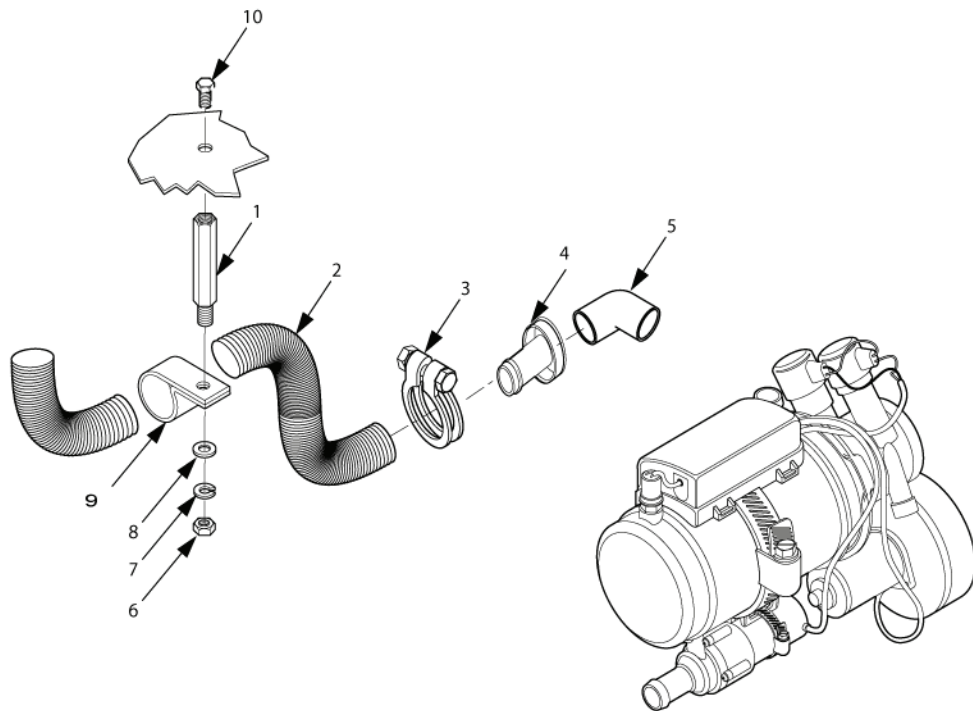

Figure 6-4. Exhaust Hose Assembly.
6-9.6 Attach one end of exhaust hose (2, Figure 6-4) to exhaust elbow (5), using adapter (4) with clamp (3). Attach it to exhaust port on heater. Apply 2 thick beads of RTV around exhaust port of heater and attach exhaust elbow to heater. Move elbow in a position that doesn't interfere with anything in the route to the hole drilled above in paragraph 6-9.4.